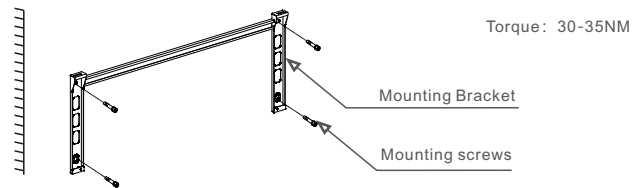
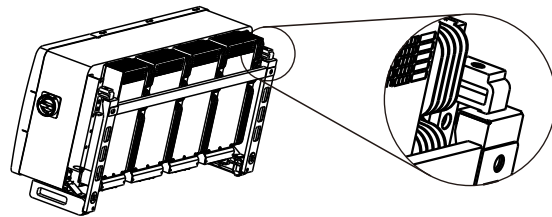

Figure 3.8 PV Inverter wall mounting
Figure 3.9 Install the PV Inverter
Refer to figure 3.8 and figure 3.9 PV Inverter shall be mounted vertically.
1. Refer to Figure 3.8, drill holes for mounting screws based on the hole diameter of bracket using a precision drill keeping the drill perpendicular to the wall. Max depth is 90mm.
2. Make sure the bracket is horizontal. And the mounting holes (in Figure 3.8) are marked correctly. Drill the holes into wall at your marks.